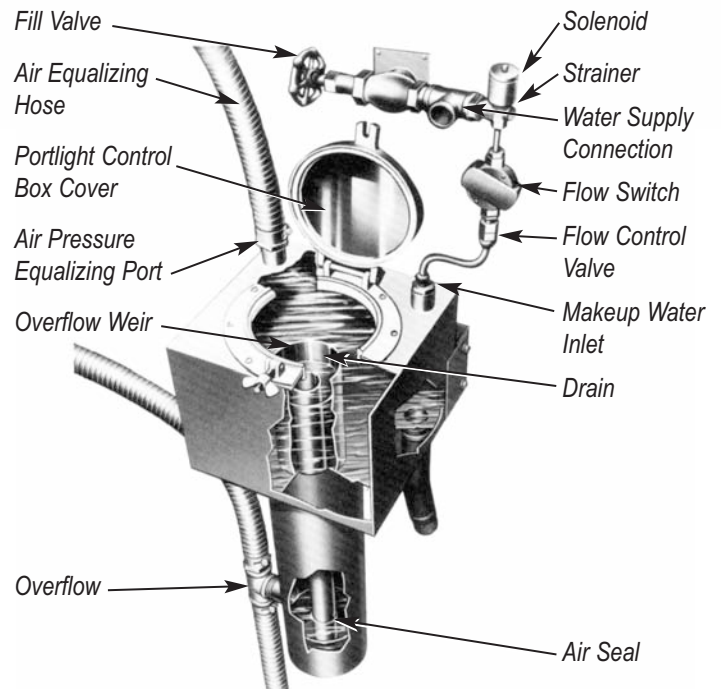

Figure 9. Cutaway of Standard Water Level Control Box.
- b. Pour water down control box drain until a constant level is maintained to make a water seal in the bottom of the pipe (Figure 9.)
- a. Observe water in control box frequently. Be certain that water level is at the running level weir (Figure 9). Observe frequently through glass portlight in control box top. DO NOT open portlight when unit is running because air leakage will alter water level.